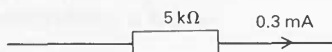

Figure I50
- 2(I)** What is the potential difference between the two ends of the resistor shown in figure I50?